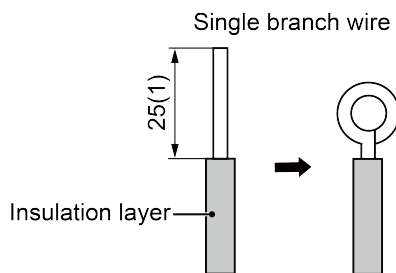

Fig 5.1.1
### (1) Connection of Single Branch Line (shown in Fig 5.1.1).